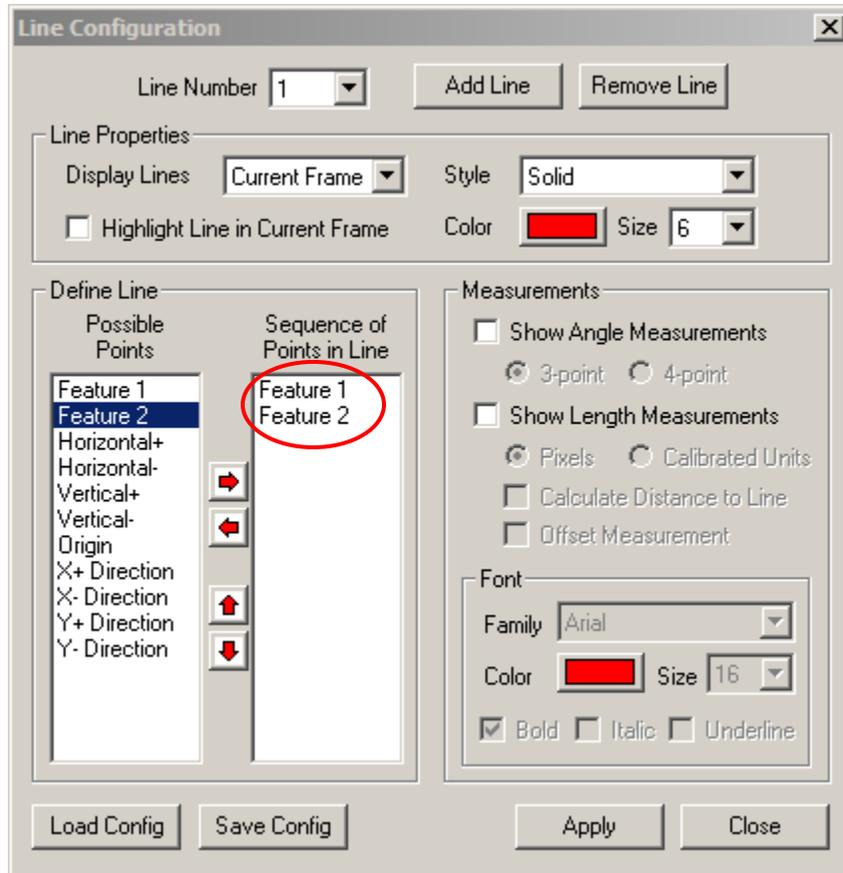

Figure 6. Line Configuration window
13. Add **Feature 1** and **Feature 2** to the line by clicking on the feature name and then the right arrow button . Figure 6 shows the Line Configuration window.